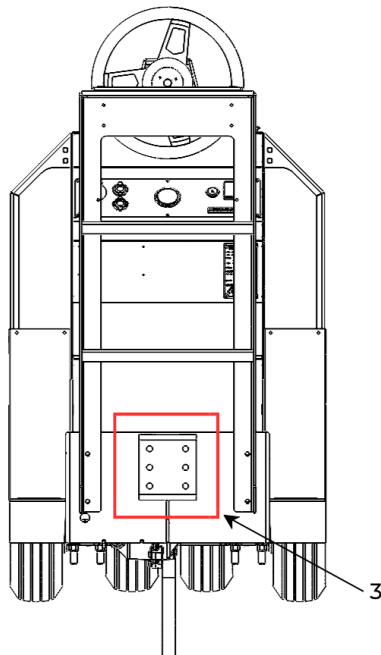

Figure 36. Hitch Mounting.
- Hitch mounting area (3) (see Figure 36).